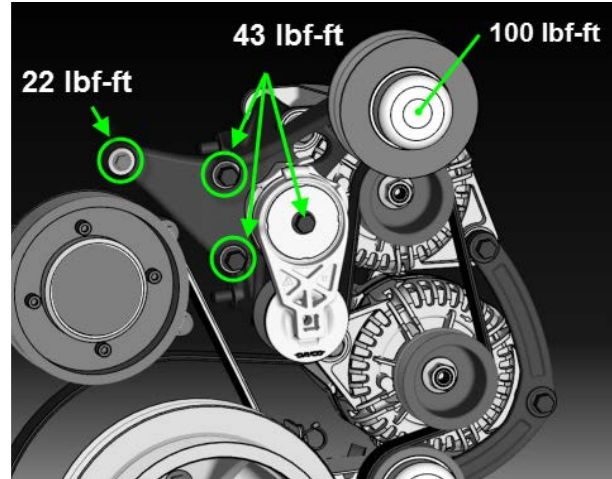

FIGURE 32
20. Reinstall the A/C compressor idler pulley bracket assembly (**FIGURE 32**). Apply Loctite 243 on threads. Reinstall the A/C compressor belts.